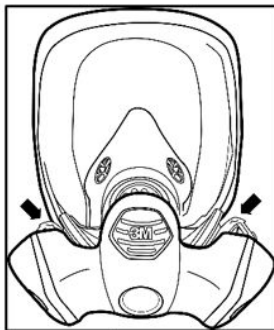

Fig.12
1. Remove valve cover by gently pulling left and right side of cover away from the facepiece (Fig. 12 and 13).
1. Remove exhalation valve cover by gently pulling left and right side of cover away from the facepiece (Fig. 12).
2. Remove exhalation valve cover by gently pulling left and right side of cover away from the facepiece (Fig. 12).